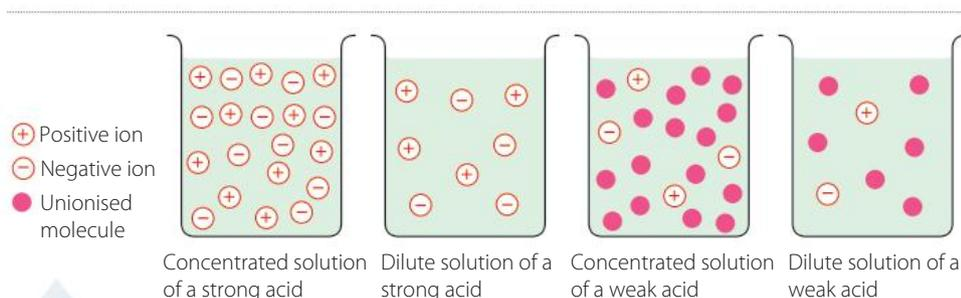

FIGURE 6.10 Concentrated and dilute solutions of a weak and strong acid
It is possible to have a dilute solution of a strong acid and a concentrated solution of a weak acid. This is also true of strong and weak bases. 'Concentrated', 'dilute', 'strong' and 'weak' have independent meanings in chemistry, as shown in Figure 6.10.
- 1 Refer to Figure 6.10 – this shows diagrammatically the difference between strong, weak, concentrated and dilute acids.